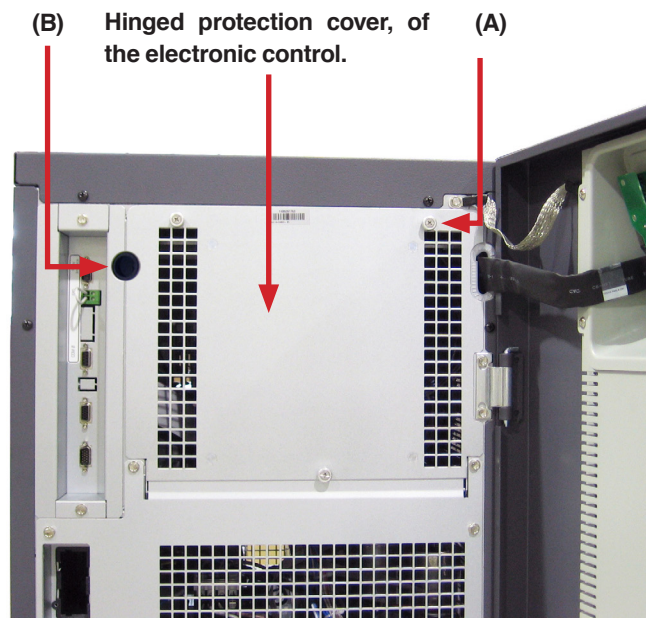

Fig. 1. UPS front view with open door.
- To release the three locks **(A)**, loosen in counter-clockwise till unblocking them (see Fig. 1).